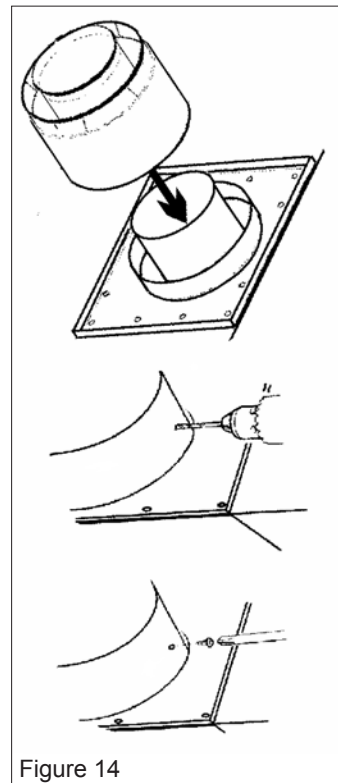

Figure 14
See figure 14.
5. Secure the adapter to the outer collar with two #6 thread cutting screws supplied. See figure 14.